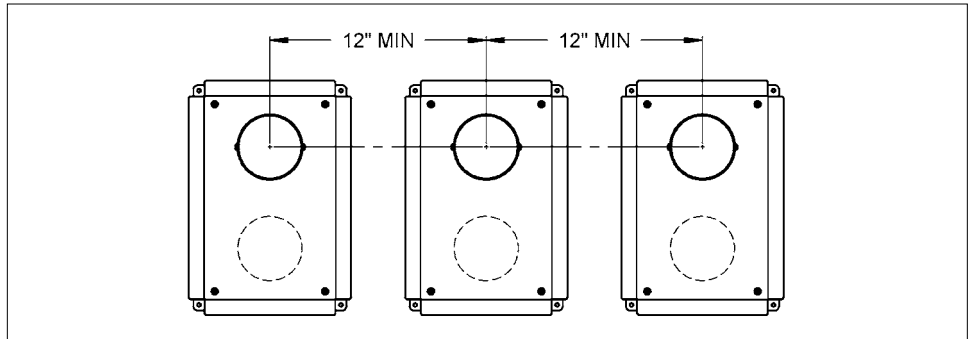

Figure 16: Minimum separation for multiple vent installation - vertical orientation
- Multiple vent SST installations must be installed level with one another, and maintain at least the minimum separation distances shown in Figures 16 and 17. The Terminals shall not be stacked vertically.